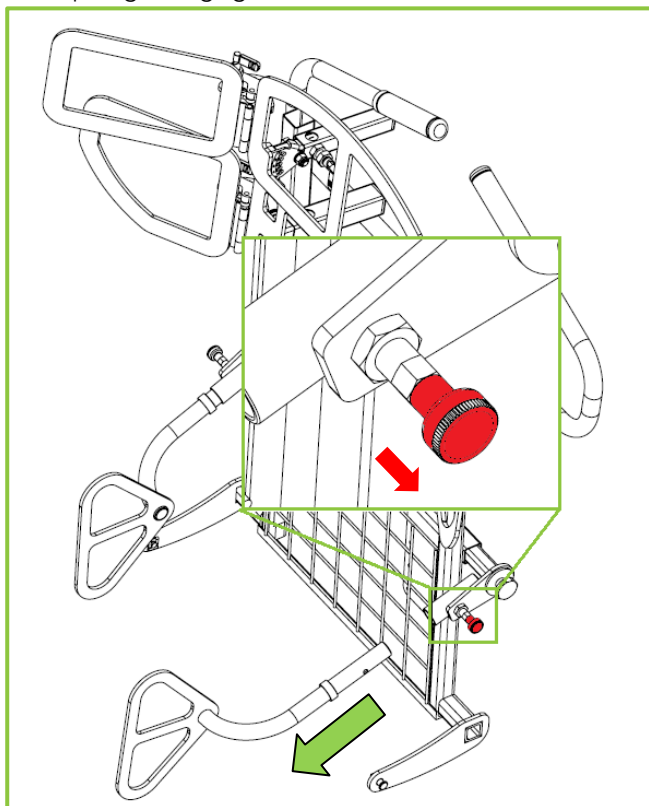

Figure 27
- 3. Removing the external laterals** – lift the lock plunger shown in red in Figure 27 and remove the external laterals. To refit, lift the lock plunger and slide the external laterals into position. Release the lock plunger and move the external lateral in and out slightly to ensure the lock plunger engages.